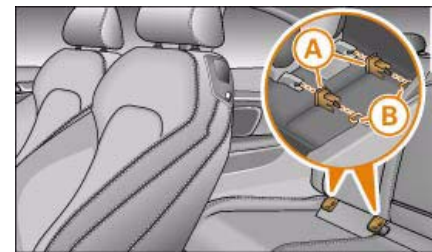

Fig. 202 The ISOFIX child safety seat is pushed into the protective sleeves.
- Fit the protective sleeves **(A)** onto the retainers **(B)** between the backrest and the seat cushion ⇒ *page 191, fig. 202.*
- Push the mountings on the child safety seat into the protective sleeves until they engage audibly (2x) ⇒ *page 191, fig. 202.*